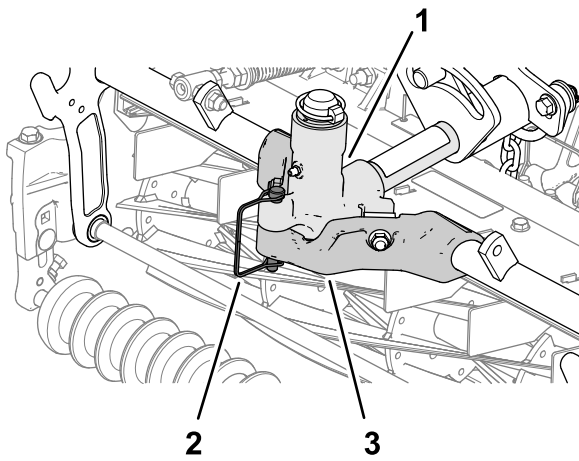

Figure 45
1. Secure the carrier frame of the cutting unit to the pivot yoke with the snapper pin as shown in Figure 45.